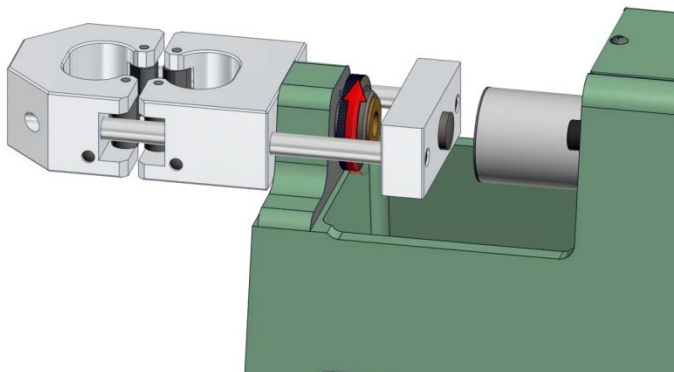

Figure 5.5.3
3. Replace the large Knurled Knob on the large set screw of the Cold Tensile Strength Accessory on the opposite side of the Base extremity. (See Figure 5.5.3).